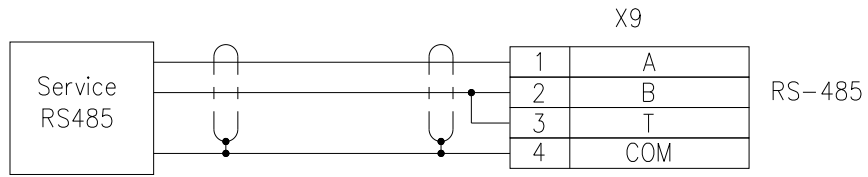

Figure 7. drive communication wirings details
6. Connect drive communication RS-485 (X9 Connector) according to Fig.7